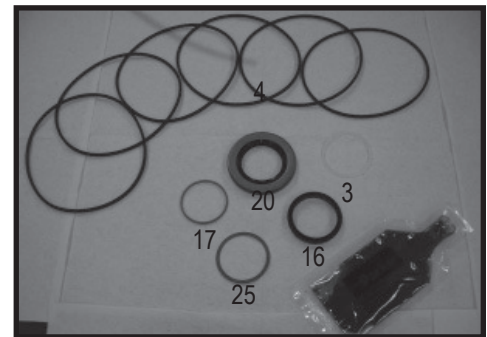

Figure 32, TF, TG seal kit
- **NOTE: Individual seals and seal rings as well as a complete seal kit are available. SEE FIGURE 32. The parts should be available through most OEM parts distributors or Parker approved Torqmotor™ distributors. (Contact your local dealer for availability).**